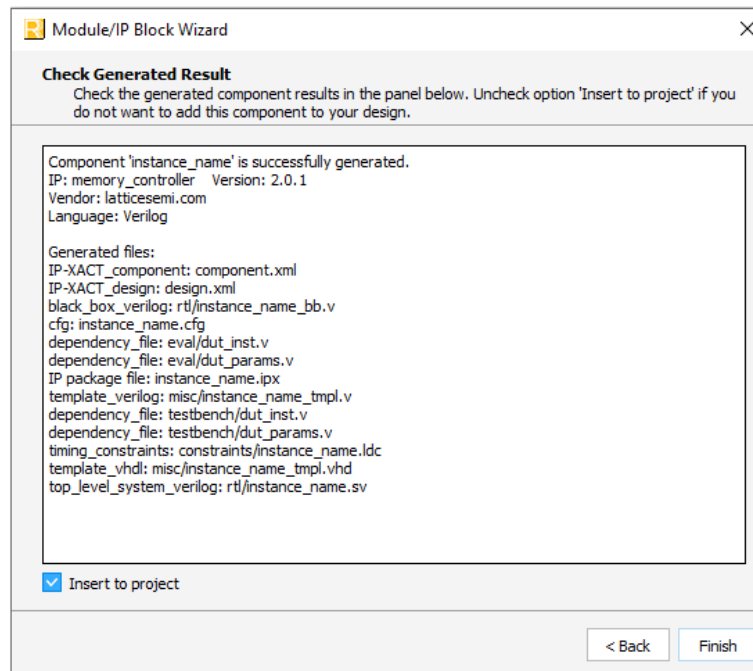

Figure 7.6. IP Generation Result
- Click **Generate**. The **Check Generating Result** dialog box opens, showing design block messages and results as shown in Figure 7.6. Click **Finish**.